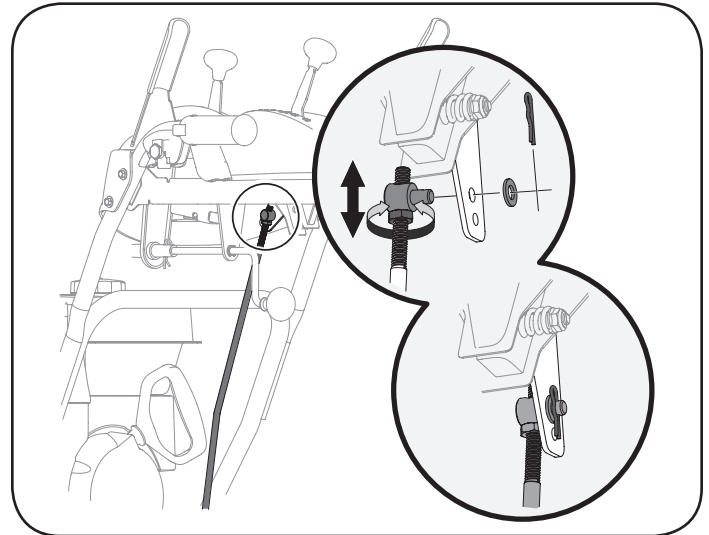

Figure 61
If the full range of speeds (forward and reverse) cannot be achieved, refer to the Figure 61 and adjust the shift cable as follows:
2. Remove cotter pin and washer from adjustment ferrule on shift rod and pull it out from shift lever. See Figure 61.
4. Rotate ferrule up or down on shift rod as necessary until it lines up with upper hole in shift lever. Refer to Figure 61 inset.